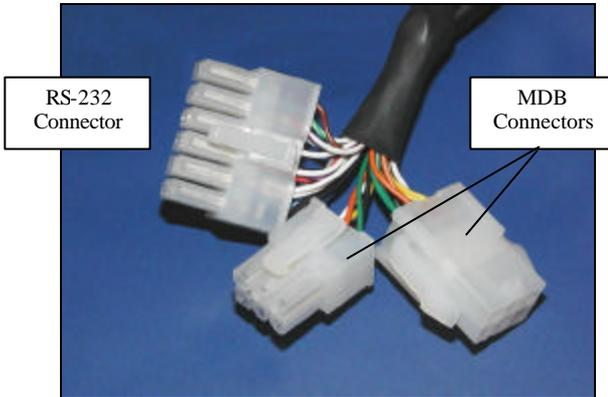

Figure 9. Aurora Main Cable Assembly – Identification of Connectors
5. Connect appropriate interface-harness cable from Host machine or Protocol Adapter Assembly, if used, to **Aurora's** Main Cable Assembly Connector (i.e., RS-232 or MDB, **Figure 9**).